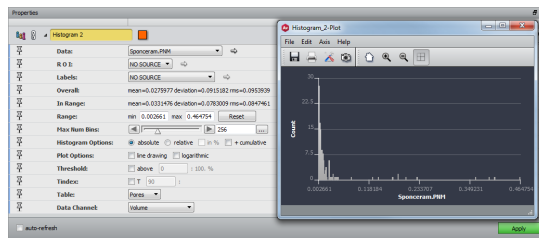

Figure 17.18: Pore Volume Histogram
5. The generated PNM can be used to plot the statistics of the pore space (see Figures 17.18 and 17.19).